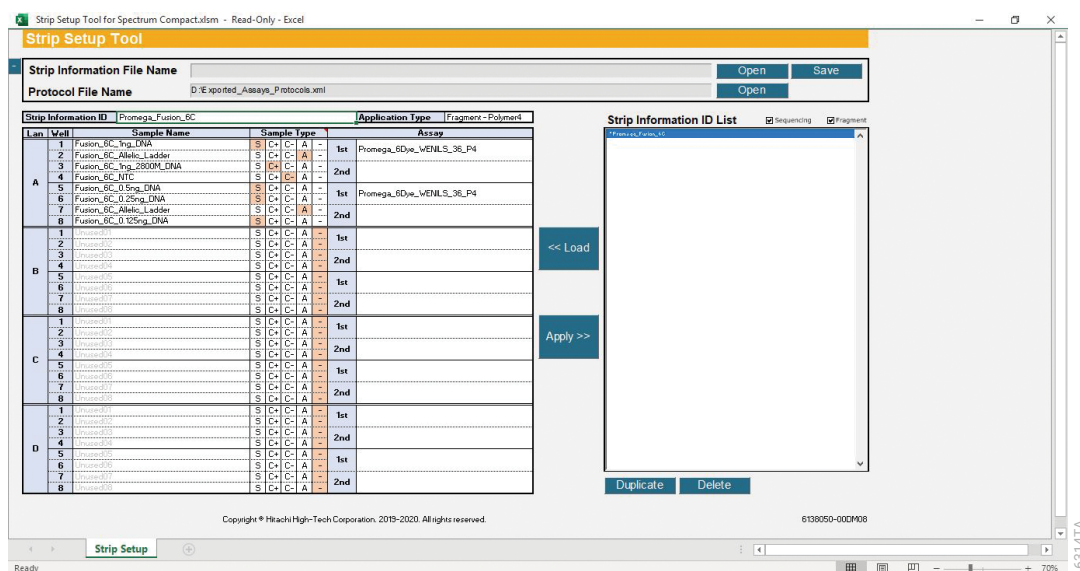

Figure 213. 'Strip Setup Tool for Spectrum Compact' with new strip in Strip Information ID List.
6. Select **Apply** to move the newly created strip information to the Strip Information ID List. The name of the newly created strip will appear in this list (Figure 213).